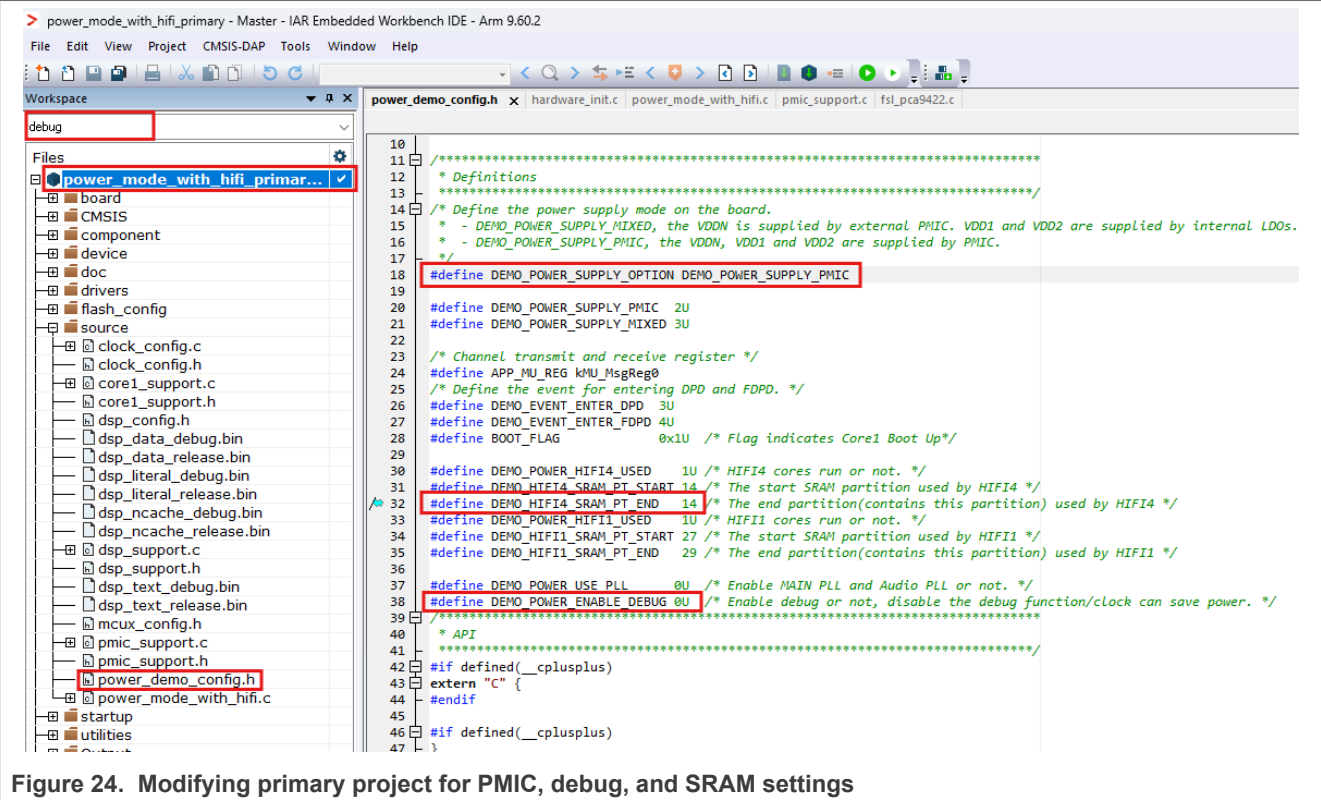

Figure 24. Modifying primary project for PMIC, debug, and SRAM settings
8. Open the primary project and select the debug_target. Update the DEMO_POWER_SUPPLY_OPTION, DEMO_POWER_ENABLE_DEBUG, and DEMO_HIFI4_SRAM_PT_END settings as shown in Figure 24. Once the modifications are complete, compile the primary project.